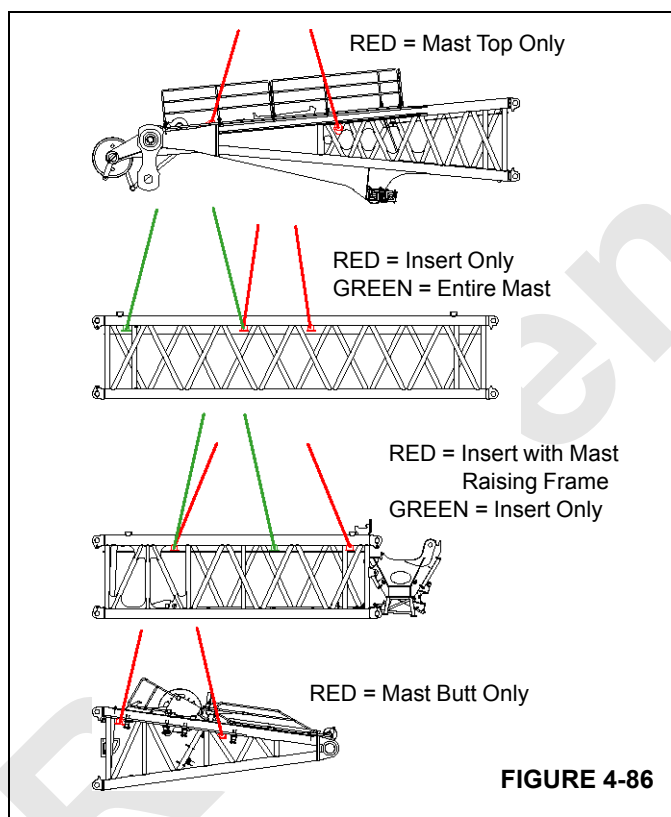

FIGURE 4-86
2. Lift insert (2) into position at the minimum dimension given in View B.
- a. Lift with nylon lifting slings as shown in View A. See Figure 4-86 for lifting lug identification.
3. Remove mast raising frame (3, View C) from insert (2):
- a. Attach three legs of the chain lifting sling to the lifting lugs on mast raising frame (3).
- c. Unpin brackets (4) from the closed position.
- d. Rotate the brackets open and reinstall pins (5).
- e. Lift mast raising frame (3) off pins (6) on the end of insert (2).
- f. Place mast raising frame (3) on the ground at the maximum dimension given in View D and disconnect the lifting slings.
- g. Pin brackets (4) in the closed position (View F).
- Mast butt (18)
- Mast top (19)
- a. Lift the mast section with nylon lifting slings attached to the lifting lugs as shown in View A. See Figure 4-86 for lifting lug identification. The mast section must be level.
- b. Lift the mast section into position (View B) so all four connectors (20) engage connectors (21). The 2-lug connectors must straddle the center lug of the 3-lug connectors.
- c. The connecting pin holes will align automatically when alignment pins (22, View C) are bottomed against alignment lugs (23).
- d. Place hand-held cylinder (24a, View F) in position so the cylinder trunnion engages the slots in bracket (25) and the cylinder rod end engages the pin head in connecting pin (26).